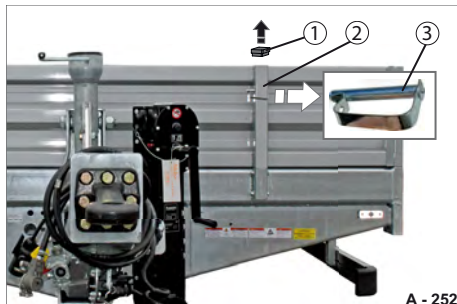

Fig. 189 Preparing installation
- ▶ Remove the caps (Fig. 189/1) from the posts (Fig. 189/2).
- ▶ If necessary, pull out the spring pin bolts (Fig. 189/3).